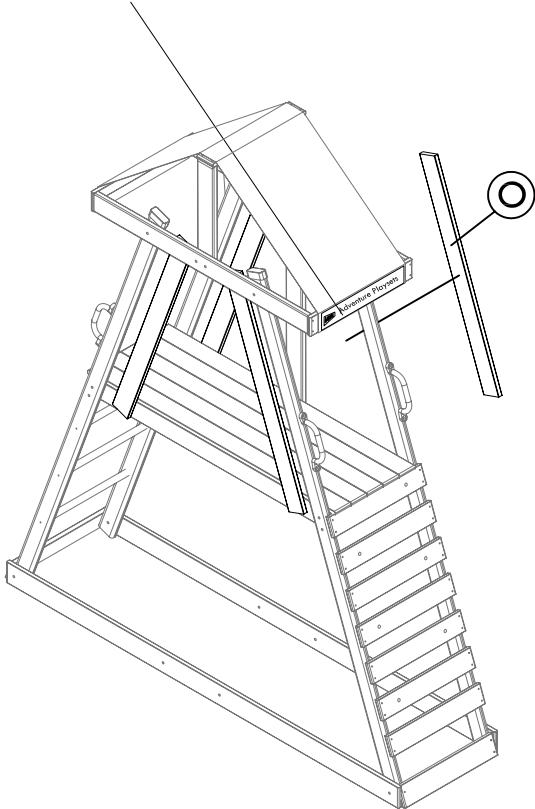

Fig. 12
- (1) Roof Tarp
**Step 1:** Attach one end of each Wall Slats 'O' to the inside of the Monkey Bar Cross Braces 'F' with (2) 1 1/4" deck screws and attach the other end to the outside of Angled Floor Supports 'M' with (2) 1 1/4" deck screws each. (the Wall Slat should be spaced 3 1/4" away from upright) See Fig 12.